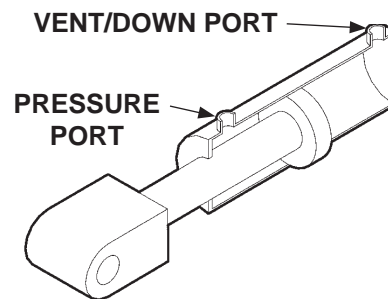

FIG. 50-1
4. Check the hydraulic cylinder. With the platform on the ground, remove the breather plug or vent line from the vent/down port of the cylinder (**FIG. 50-1**). Raise the platform even with the bed. Allow pump motor to run two seconds more while you watch for hydraulic fluid at the vent/down port. A few drops of hydraulic fluid escaping the vent/down port is normal; however, if it streams from the vent/down port, piston seals are worn. Replace seals.